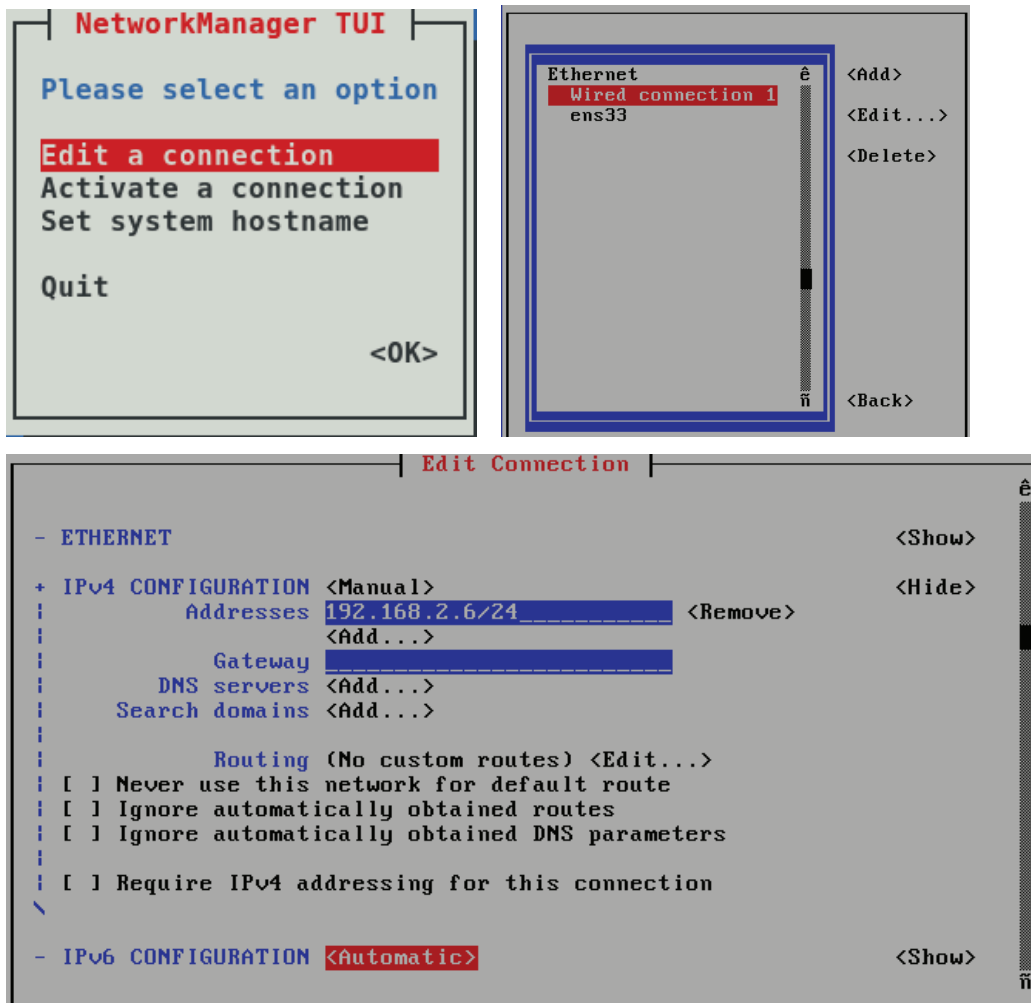

Figure 20. Edit Connection
- g) All operations are followed sequentially as shown in the Figure 20. 'IPv4 Configuration' is set manually. If there is one-to-one connection with the Control Module, only the IP Address is given. Prefix must be entered as Subnet Mask (see APP 6). If not, the gateway information should be given with the IP address. All changes are saved with 'Ok' button (IP Address and Gateway must be given according to customer request).